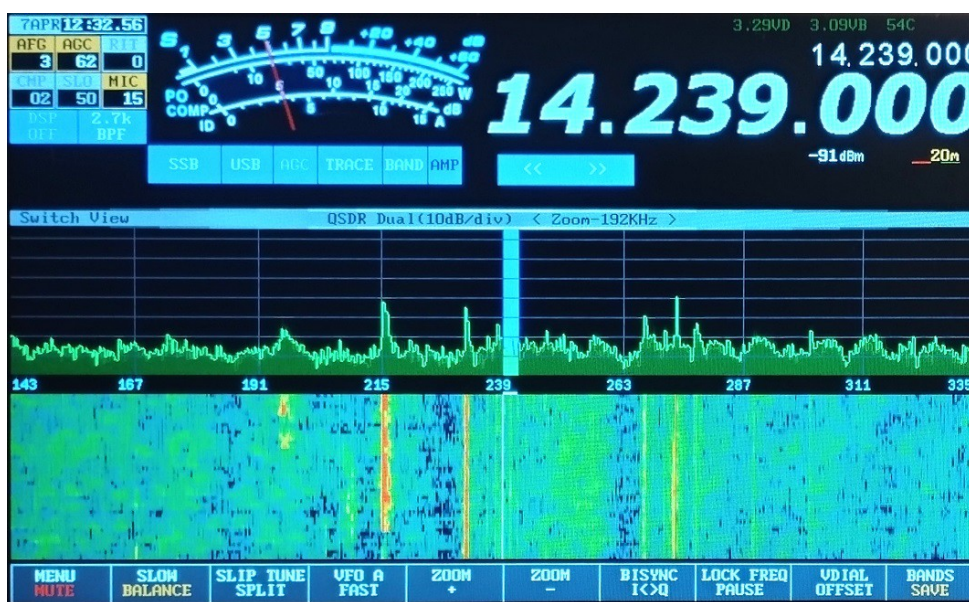
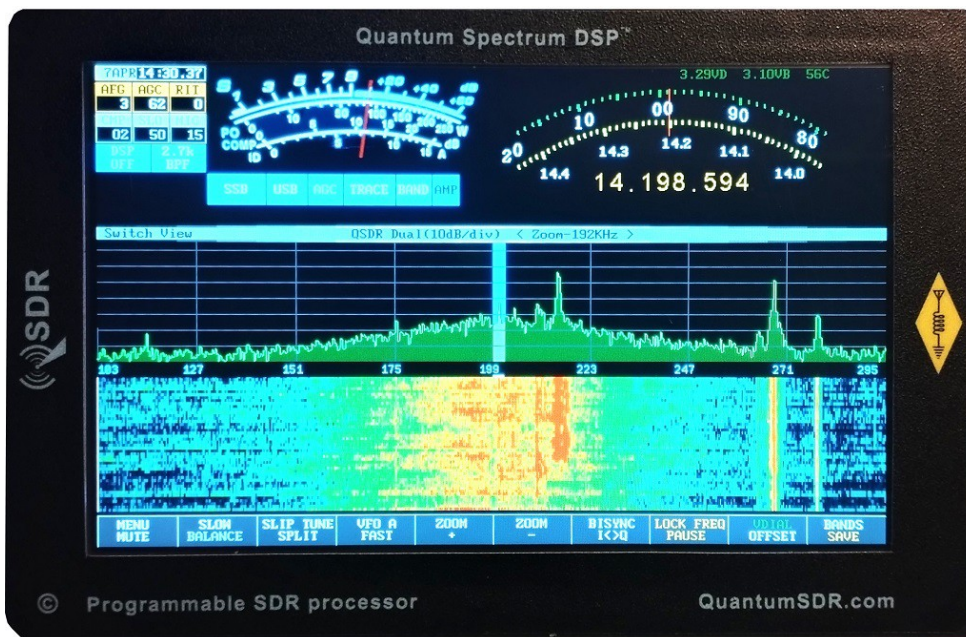

Figure 2: Main touch display of the Spectrum DSP
Figure 3: Virtual dial: The Spectrum after clicking the TUNE/O button.
- **S-Meter:** This S-meter is nominally calibrated so that S-9 equals 50 microvolts into a 50 ohm load with each S-unit representing 6 dB. Practically speaking, the usable range of the S-meter ranges from about S-3 to something a bit higher than “40 over” which, if you were “run the numbers” about matches the dynamic range of the receiver! The bottom half of the S-Meter’s graticule (“S0-S9”) is normally white in color, but if the receiver’s A/D converter experiences an overload condition, it will turn red. On bands with strong signals it is normal for this to momentarily flash red as the internal gain control adjusts itself. In **Figures 2 and 3** the S-meter is displaying a signal level of S-9.
Below the frequency readout, shown in **Figure 2** and **Figure 3** is a spectrum display that shows signals that are on either side of the current tuned frequency. Along the bottom of the spectrum display is a frequency scale that shows the frequency scaling of the graticules rounded to the nearest kHz.